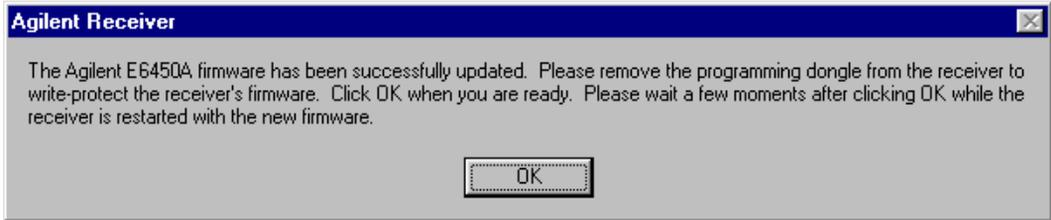

Figure 58 Firmware update successful dialog box
- 4** Click **OK**. When the update is complete, the dialog box shown in Figure 58 appears. This indicates that the update is complete.